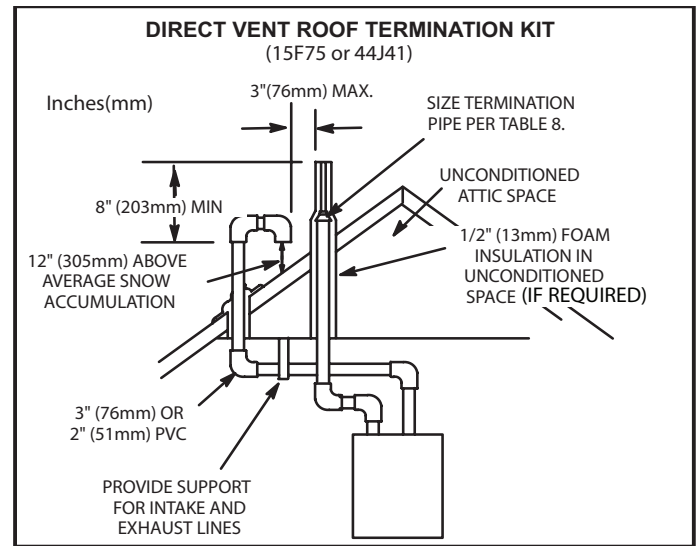

FIGURE 25
Intake and exhaust pipes may be routed either horizontally through an outside wall or vertically through the roof. In attic or closet installations, vertical termination through the roof is preferred. Figures 25 through 33 show typical terminations.
3. On roof terminations, the intake piping should terminate straight down using two 90° elbows (See Figure 25).